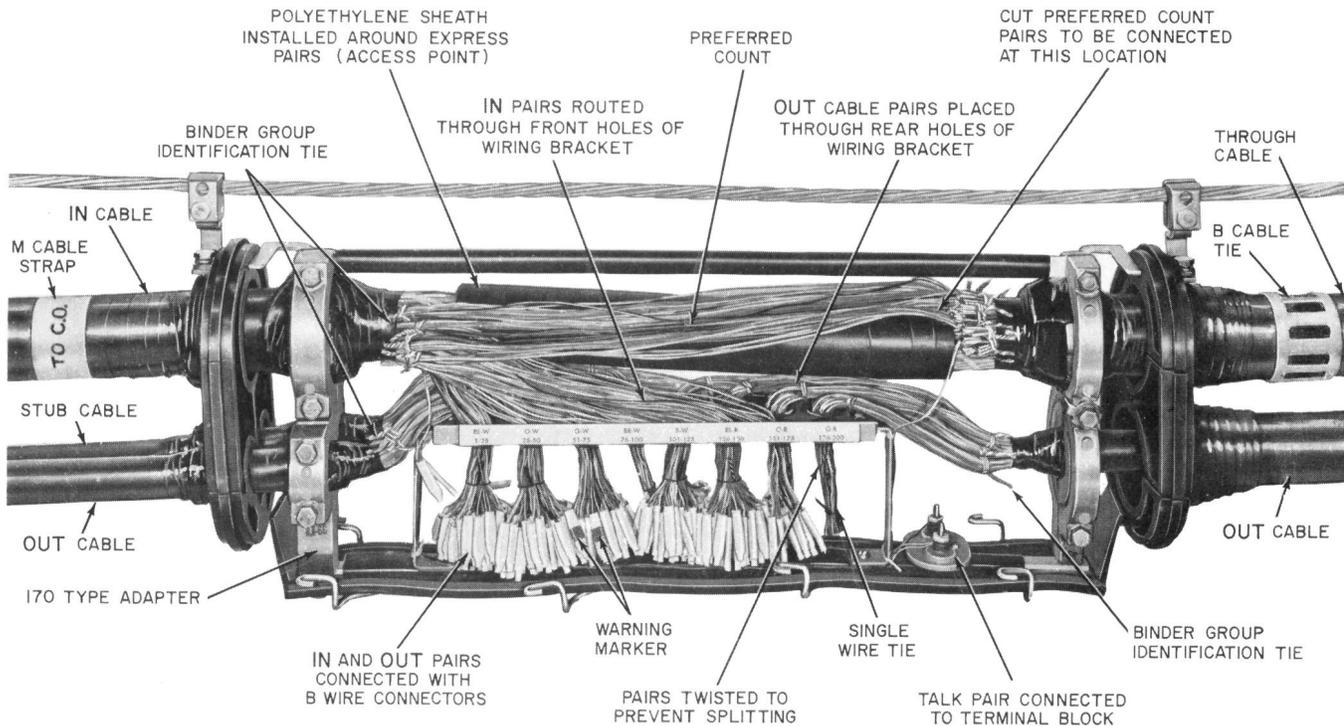

Fig. 2—1B1 Closure
- (a) **Strand-Mounted Access Point**—The 1B1 Closure (Fig. 2) is used as a strand-mounted access point.